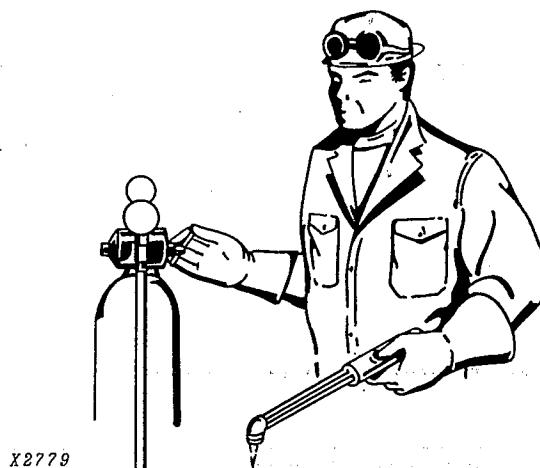

Fig. 172 — Stopping Work
1. Close cylinder valves (Fig. 172).